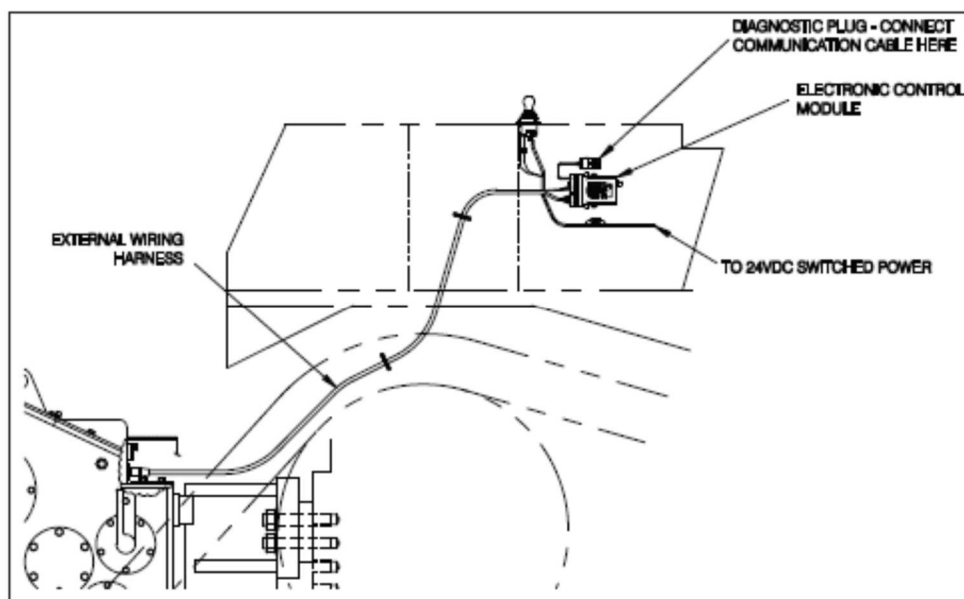

Figure 13 - Electronic Control Module and Diagnostic Plug
- 2) Attach the communications cable to the diagnostic plug on the winch external wiring harness and to one of the computer's COM ports or to a USB to serial COM port adapter. See Figure 13.